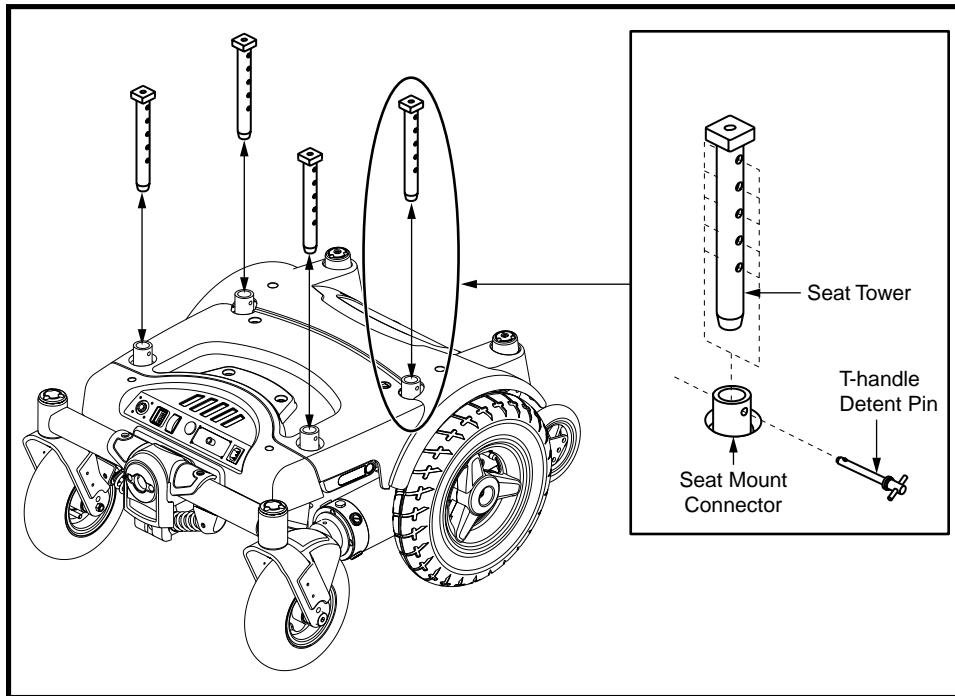

Figure 3. Seat Height Adjustment
2. Remove the T-handle detent pins from the seat mount connectors. See figure 3.
3. Raise or lower the seat towers to the desired height and reinstall the T-handle detent pins. See figure 3.